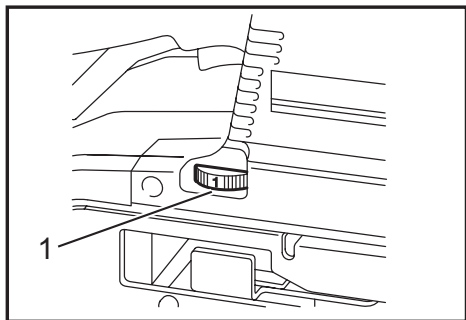

Fig.2
► Fig.2: 1. Speed adjusting dial